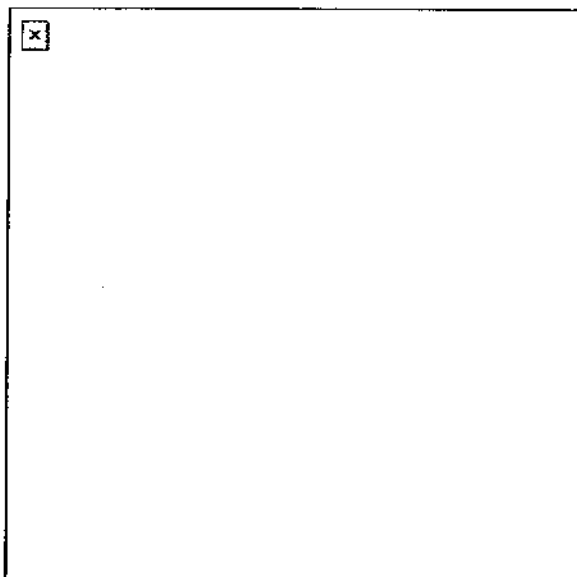

Figure 25. Attachment of the receiver sear assembly.
- k. Attach the receiver sear assembly (Figure 25).